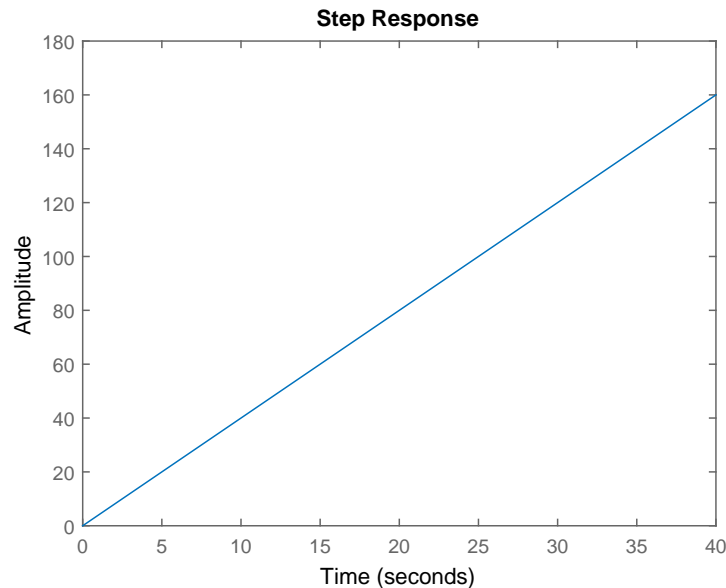

Figure 2: Step response of the integrator $1/s$.
Note that **sys** is the system object with integrator transfer function created previously. The result of this is a plot that is displayed when the script is run even with the `;` in place. This plot is shown in Figure 2. Sometimes it is useful to access to record the data
Note that Figure 2 represents the tank getting filled with water as the inflow is greater than the outflow. Furthermore, it is consistent with the ramp function described algebraically in (2).
- Plot the data, which is now in your workspace, using MATLAB and include appropriate labels to it. (This should look exactly as Figure 2, which was previously plotted using a MATLAB commands instead of SIMULINK models).